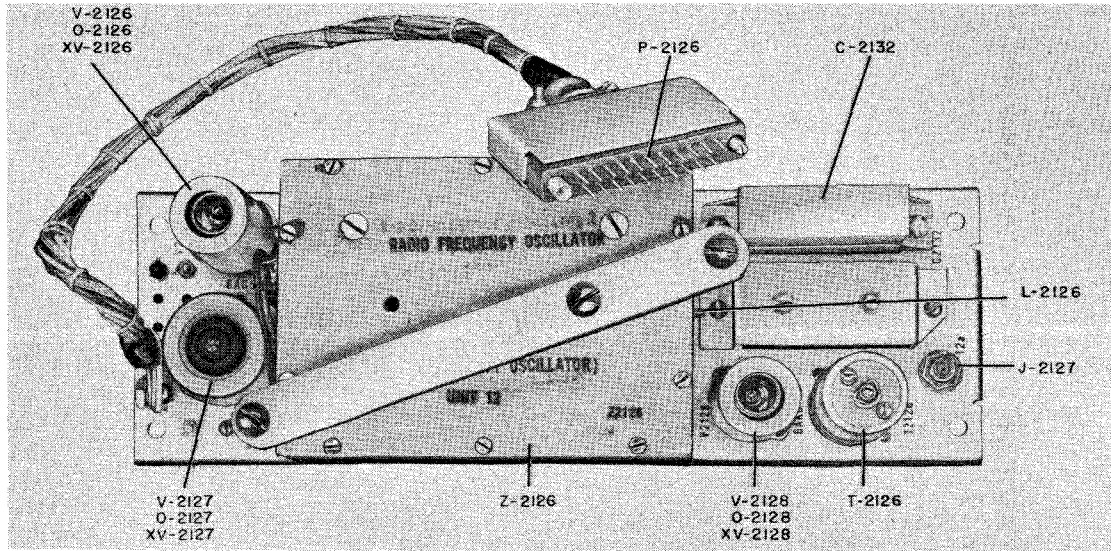

Figure 7-52. RFO, Unit 12 (Z-2127), Top View
dd. RADIO FREQUENCY OSCILLATOR, UNIT 12 (Z-2127), TROUBLE SHOOTING.—The radio frequency oscillator (unit 12), figures 7-52 and 7-53, has two outputs. One of these outputs can be checked at the arm of potentiometer R-2916 (figure 7-3) and the other output can be checked by means of the ZERO BEAT INDICATOR when switch (Z) on the RFO front panel is in position F.S. OSC. If there is no unit 12 output, check r-f voltage at jack F.S. OSC. or RFO front panel. Use Multimeter ME-25A/U, or equivalent, with r-f probe; the reading should be approximately 10.0 volts. Use the trouble location diagram, figure
(1) ELECTRICAL ADJUSTMENTS—Four adjustments may be made when aligning unit 12. Two are located on unit 12 (Z-2126 and T-2126) (figure 7-52), and two are screwdriver adjustments on the RFO front panel (figure 7-3), F.S.O. ZERO ADJ. (R-2916) and F.S.O. RANGE ADJ. (R-2919).
If a 1:1 Lissajous pattern cannot be obtained by adjusting F.S.O. ZERO ADJ., pull the radio frequency oscillator (RFO) drawer out, bypass the interlock, and adjust L-2126 (located on the left side of unit 12; see figure 7-52) for a 1:1 Lissajous pattern on the oscilloscope. L-2126 is the coarse adjustment and